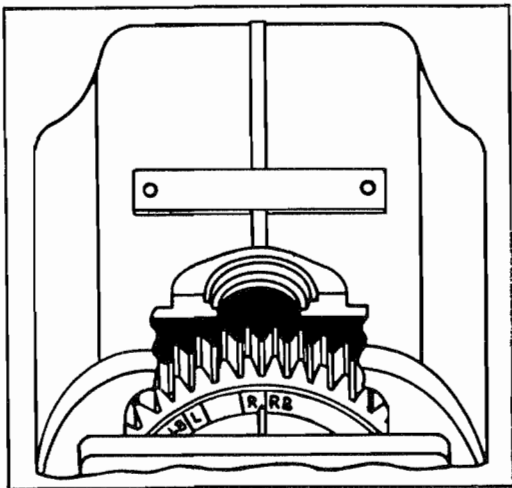

Figure 913. Alignment of Timing Marks on Distributor Gear - 6-Cylinder with Retard Contacts, Right Hand Rotation
- (3) 6 cylinder with retard contacts assembly types, the timing rib on the distributor block must lie between the L and LB or the R and RB marks on the gear and should be nearer to the LB or RB mark, depending on magneto rotation (See Figure 913).
- A. Set rotating magnet in number 1 cylinder firing position. Remove timing inspection plug (68, 69 or 73) from top of magneto. Turn magneto shaft in direction of normal rotation until applicable timing mark on distributor gear is approximately aligned with mark on distributor block. See Figures 913 through 916. The magneto is now approximately in number one cylinder firing position.